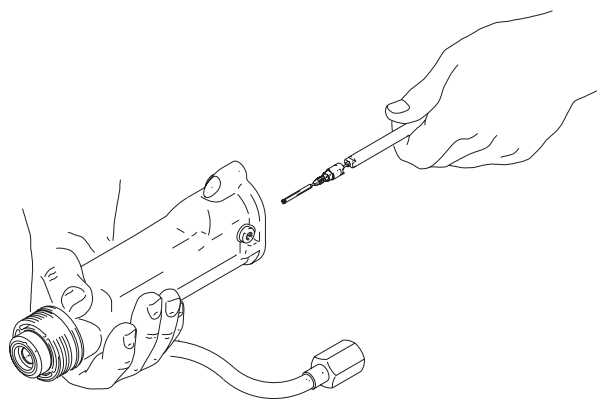

Fig. 29. Fluid Needle Replacement
7. Install the fluid needle assembly in the gun barrel. Push in on the needle with the 2 mm ball end wrench (44) and tighten. See FIG. 29..
9. Install the spring cap (45), making sure the grounding spring (25) is in place. Tighten until snug. **Do not overtighten.**
10. Install the barrel (6), page 45.